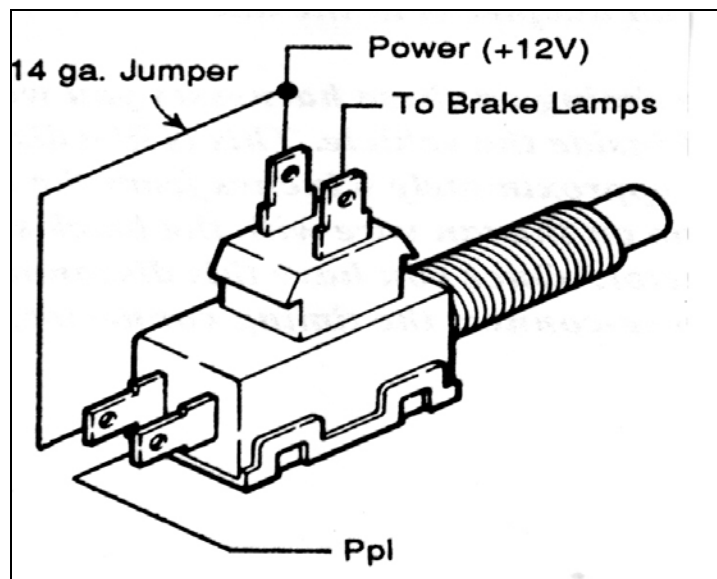

Figure 6.5 Brake switch
6.1.10. If you are using the recommended brake switch then you will wire it according to **Figure 6.5**. The wire jumped to the back of the switch in the illustration is the wire that has power on it whether or not the brake is being applied. If you have installed your own switch then it must connect the single purple wire to power **ONLY** when the brakes are **NOT** being applied. If you are using a hydraulic brake switch see page 33 for proper wiring using a relay.